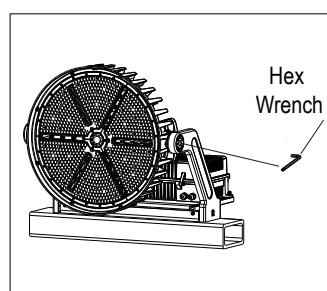

Figure 5
4. Adjust the angle by loosening the adjustment screw with a hex wrench (Figure 5).